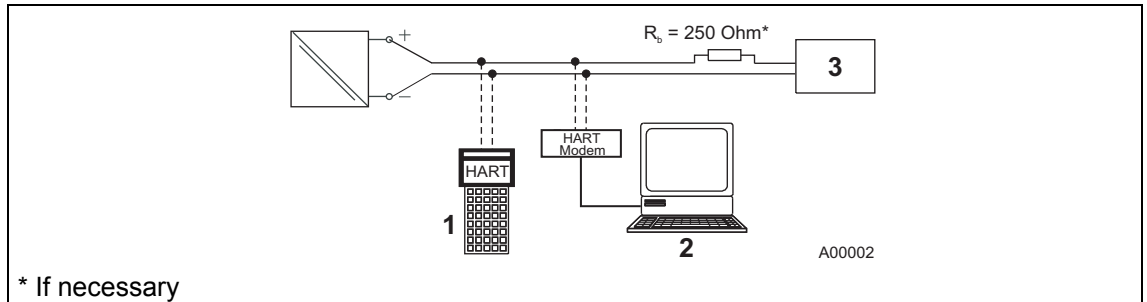

Fig. 1
4. Carry out installation as shown in Fig. 1.